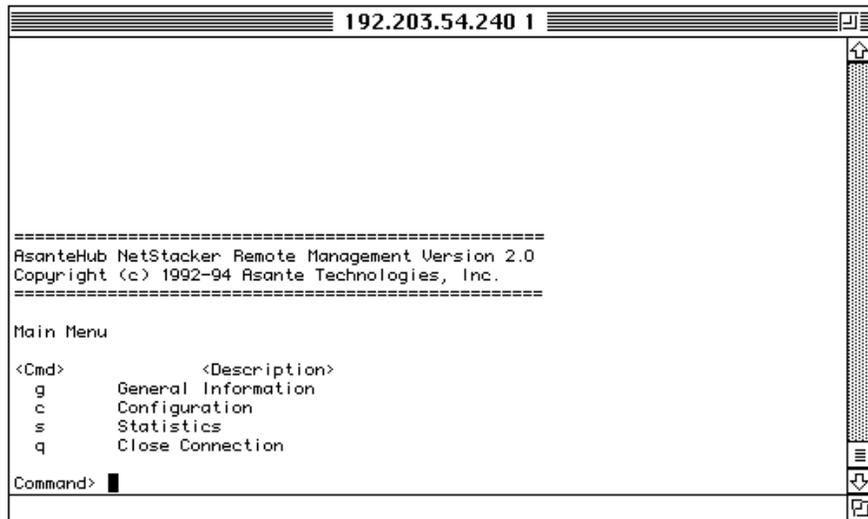

Figure 15 Asanté Remote Management System Main Menu using Telnet
- 4** Click the OK button. Figure 15 shows the Asanté Remote Management System Main menu that appears for configuring a NetStacker hub.